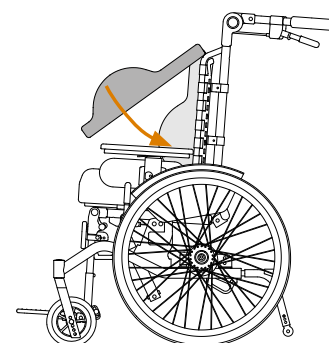

Figure 15. Setting cushion
- Push the cushion forward and press firmly against the back (Figure 15).